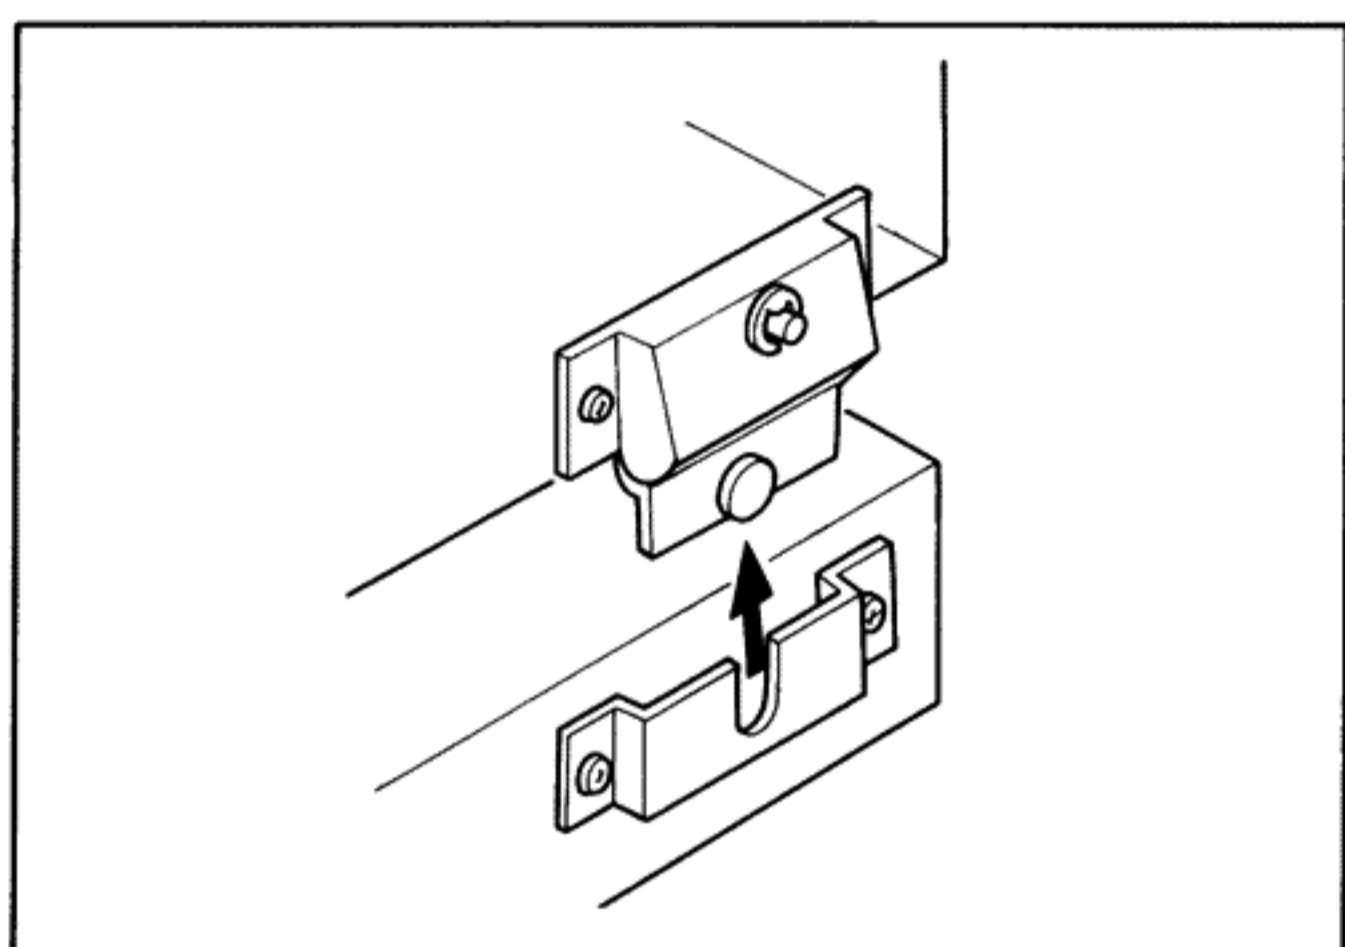

Fig. 2-1. Top cover removal
1. Open the top cover and lift the top cover straight up as shown in Fig. 2-1.